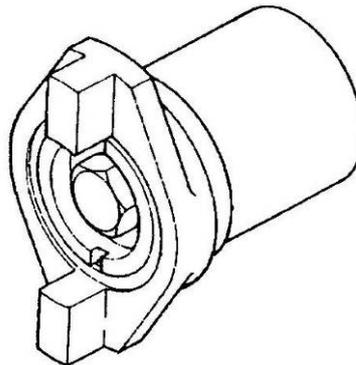

Figure 66 Camshaft Coupling Tool
- d. Install the camshaft coupling tool, special tool 157842-4420, (Figure 66) on the camshaft and remove the control lever return spring.